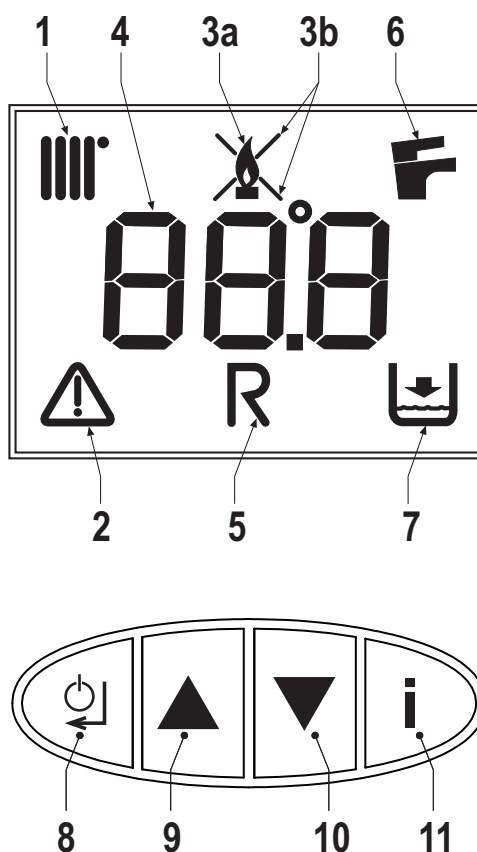

fig. 1 - Control panel
A heating demand (generated by Request Contact, Room Thermostat or Remote Timer Control) is indicated by activation of the radiator (detail 1 - fig. 1).
The multifunction display (detail 4 - fig. 1) shows the heating sensor temperature and, during heating standby time, the message "d2".
A DHW demand (generated by drawing hot water) is indicated by activation of the faucet (detail 6 - fig. 1).
The multifunction display (detail 4 - fig. 1) shows the DHW sensor temperature and, during DHW standby time, the message "d1".
Press the on/off button (detail 8 - fig.1) for 5 seconds.
When the device is turned off, the PCB is still powered. Domestic hot water and heating are disabled. The frost protection system remains activated. To switch the device on again, press the on/off button (detail 8 - fig.1) for 5 seconds.
To access the user settings menu, press the Info button (detail 11 - fig. 1).
Press the Info button (detail 11 - fig. 1) until displaying the parameter **u01** of the user settings menu.
Press Enter (detail 8 - fig. 1): the actual value of the parameter **u01** is displayed.
Use the buttons (details 9 and 10 - fig. 1) to adjust the temperature from a min. of 30°C to a max. of 85°C.
Press Enter (detail 8 - fig. 1) to confirm the setting.
Then press the Info button (detail 11 - fig. 1) until exiting the menu.
Press the Info button (detail 11 - fig. 1) until displaying the parameter **u02** of the user settings menu.
Press Enter (detail 8 - fig. 1): the actual value of the parameter **u02** is displayed.
Use the buttons (details 9 and 10 - fig. 1) to adjust the temperature from a min. of 10°C to a max. of 65°C.
Press the Info button (detail 11 - fig. 1) until displaying the parameter **u03** of the user settings menu.
Press Enter (detail 8 - fig. 1): the actual value of the parameter **u03** is displayed.
Use the buttons (details 9 and 10 - fig. 1) to set Summer mode (0) or Winter mode (1).
Press the Info button (detail 11 - fig. 1) until displaying the parameter **u04** of the user settings menu.
Press Enter (detail 8 - fig. 1): the actual value of the parameter **u04** is displayed.
Use the buttons (details 9 and 10 - fig. 1) to set Economy (0) or Comfort (1) mode.
Then press the Info button (detail 11 - fig. 1) to exit the menu.
Press the Info button (detail 11 - fig. 1) until displaying the parameter **u05** of the user settings menu.
Press Enter (detail 8 - fig. 1): the actual max power step is displayed.
Use the buttons (details 9 and 10 - fig. 1) to vary the max power: from 1 (min Step) to 5 (max Step).
Then press the Info button (detail 11 - fig. 1) to exit the menu
Press the Info button (detail 11 - fig. 1) until displaying the parameter **u06** of the user settings menu.
Press Enter (detail 8 - fig. 1): the actual value of the parameter **u06** is displayed.
Use the buttons (details 9 and 10 - fig. 1) to vary the operation methodology:
Press the Info button (detail 11 - fig. 1) until displaying the information **u07** of the user settings menu.